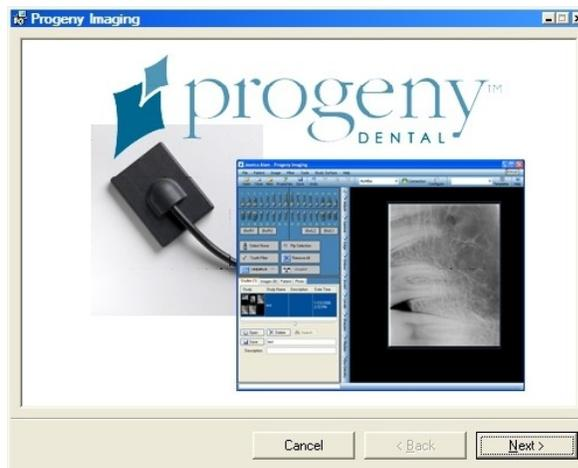

Figure 66
6. In the Progeny Imaging screen, click "Next" (see Figure 66 on page 41).